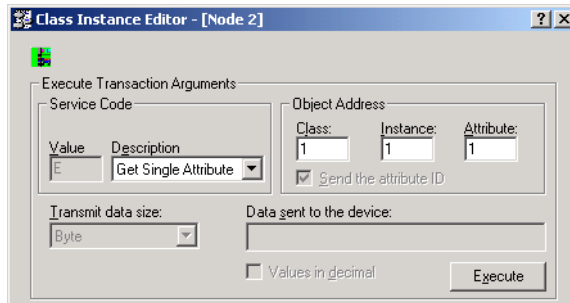

Figure 3-5 Class Instance Editor window
6. From the Device menu, choose "Class Instance Editor". At this point the "Class Instance Editor" window will appear. See Figure 3-5.
6. From the Device menu, choose "Class Instance Editor". At this point the "Class Instance Editor" window will appear. Refer to Figure 3-5.